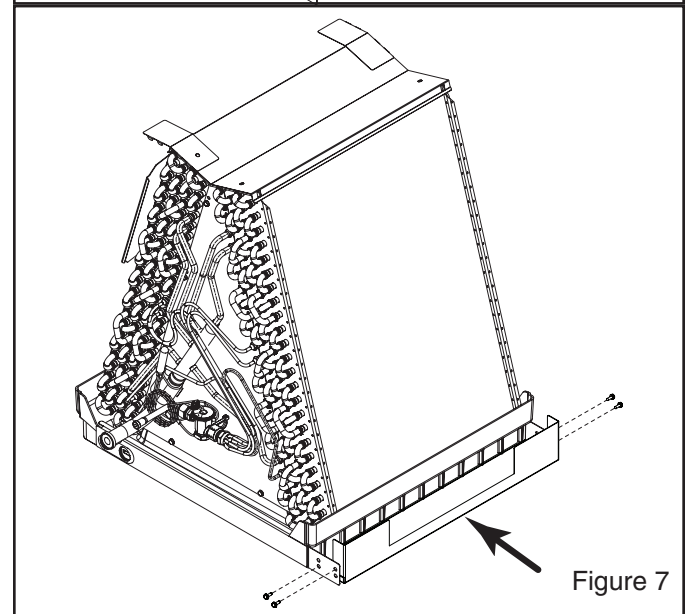

Figure 7
3. Install the large bracket between the two (2) small brackets, align the mounting holes and secure using the screws supplied with the kit. See Figure 7.